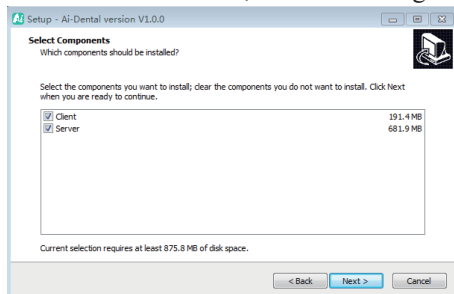

Figure 5
d) Select components. The user selects the corresponding component as needed, and then click the “Next” button, as shown in Figure 5: